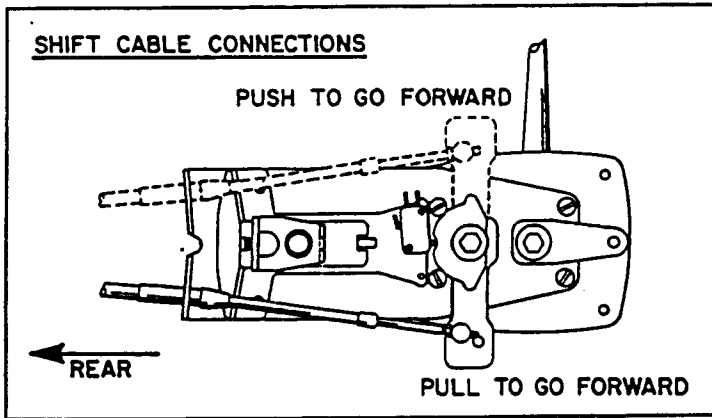

FIGURE 3
- Check engine clutch arm to determine whether push or pull travel is required for forward shift. See that shift arm is assembled correctly on control according to Figure 3.
- Screw pivot (18) onto cable rod and lubricate with grease. Allow cable rod threads to protrude through pivot 1/8" when using short travel; 1/4" when using long travel. Attach pivot to shift arm and fasten with cotter pin (19). See Figure 3 and 5. Tighten cable nut against terminal.